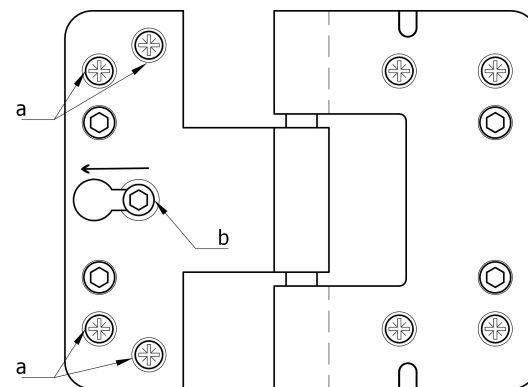

Figure 2
3. For installation remove the door leaf from the frame. Loosen the screws marked as point a (See Figure 2), for that use the screwdriver. Furthermore open the bolt marked as point b in the figure, using a 4 mm hex key. Slide the bolt in the direction indicated by the arrow and remove the door leaf from the hinges.